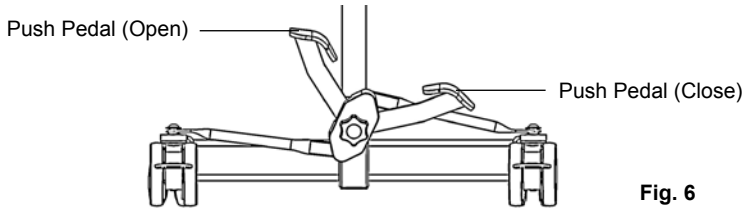

Fig. 6
5. Release the brakes and confirm the legs of the lift open and close satisfactorily by operating the push pedals (Fig. 6) whilst holding onto the push handle for stability.